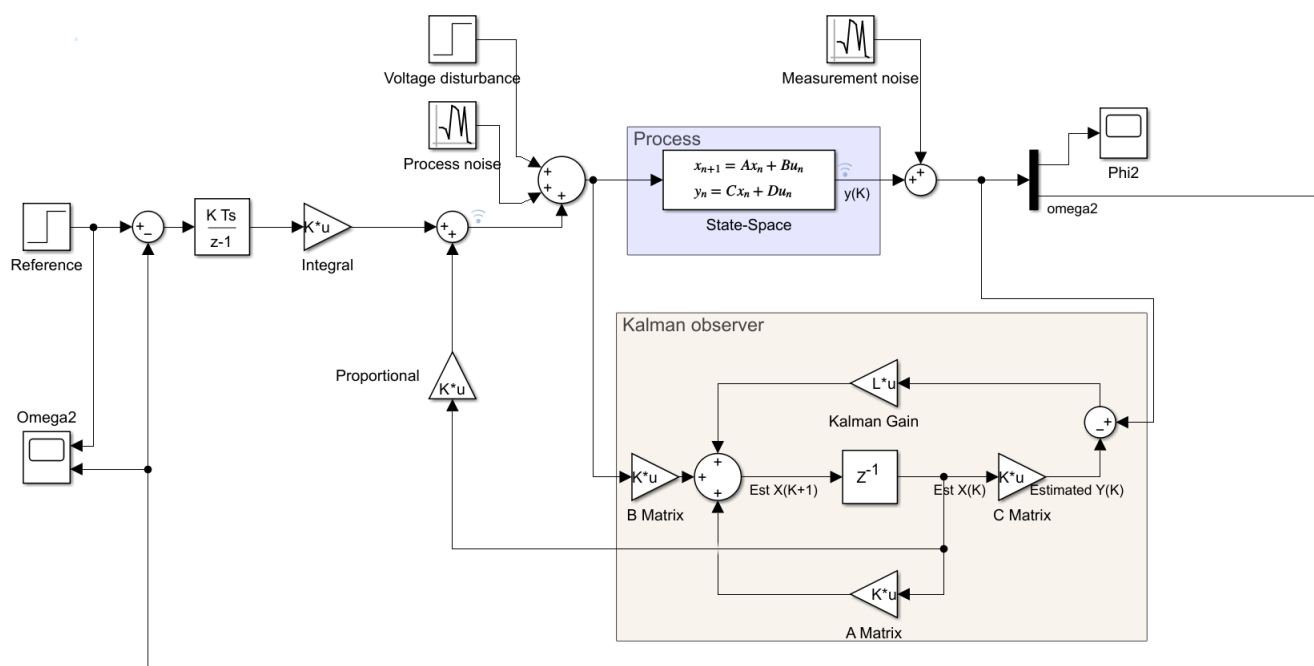

Figure 5: Simulink model for LQG with integral action
- The Simulink model used for integral action controller is shown in figure 5.